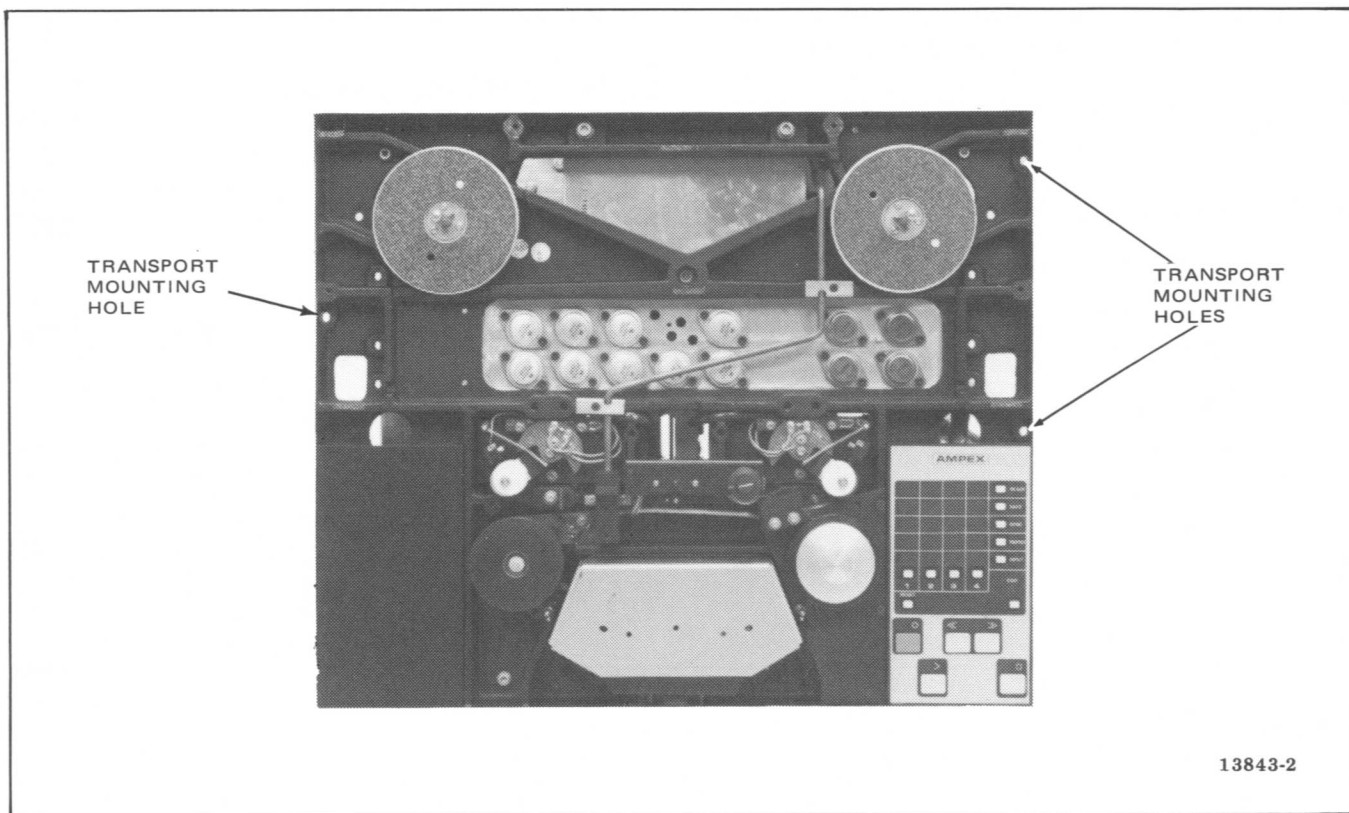

Figure 2-3. Cabinet and Fixed-Rack Mount Transport-Mounting Holes
2. Locate the three transport mounting holes (0.257-inch in diameter) shown in Figure 2-3.
2. Locate the three transport mounting holes (Figure 2-3) that are used to mount the transport.